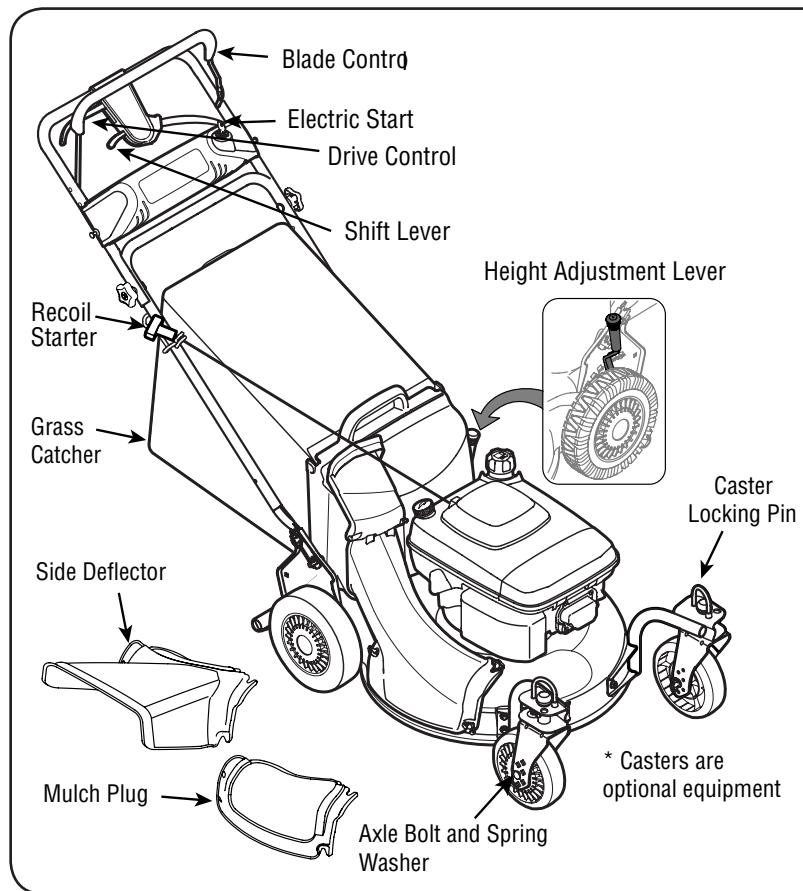

Figure 9
7. The height adjuster determines the cutting height of the mower. The adjuster is located above the left rear wheel. To adjust the cutting height, pull the lever out and away from the mower and then move it forward or back to select a new cutting height. See Figure 9.
The blade control handle is located on the upper handle of the mower. See Figure 9. The blade control handle must be depressed in order to operate the unit. Release the blade control handle to stop the engine and blade.
The shift lever is located on the drive control housing on the upper handle. See Figure 9. This lever is used to select the forward speed of the mower. When changing your speed selection, release the drive clutch control.
The front wheel cutting height is determined by the selection of one of six positions in each caster assembly. See Figure 9. To adjust, remove the wing nut from the axle bolt. Slide the axle bolt and spring washer from the assembly and select a cutting height. With the spring washer on the axle bolt reinsert in the square hole desired, through the wheel assembly and secure with the wing nut previously removed.
3. **Electric Start (If Equipped):** Turn ignition key to the right to start the engine. See Figure 9. Release the key after the engine starts.
Recoil Start: Grasp recoil starter handle and pull rope out with a rapid, continuous, full arm stroke. See Figure 9. Keeping a firm grip on the starter handle, let the rope rewind slowly. Repeat until engine cranks. Let the rope rewind each time slowly.
5. The six speed shift lever is located on the drive clutch control housing on the upper handle. See Figure 9.